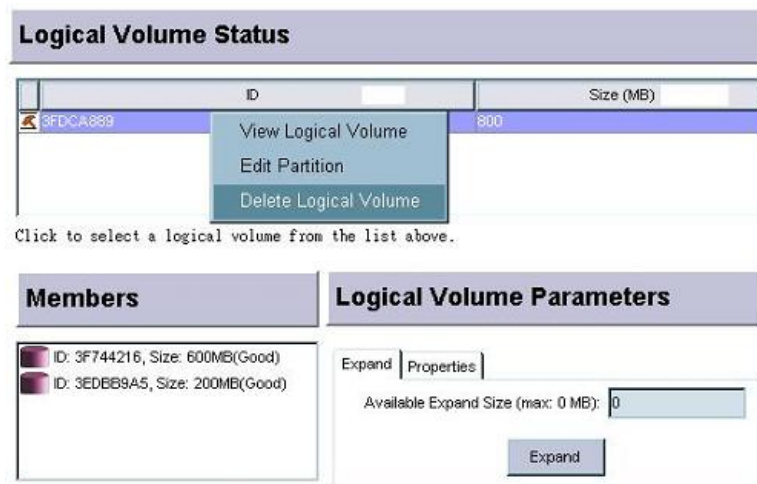

Figure 9-18: Displaying Logical Volume Edit Mode Menu
-  **Step 1.** Select the configured volume you wish to remove with a single mouse-click. **Right-click** the adjacent area to display a command menu. As shown in **Figure 9-18**, all the LVs that have been created will appear below the **Logical Volume Status** panel.